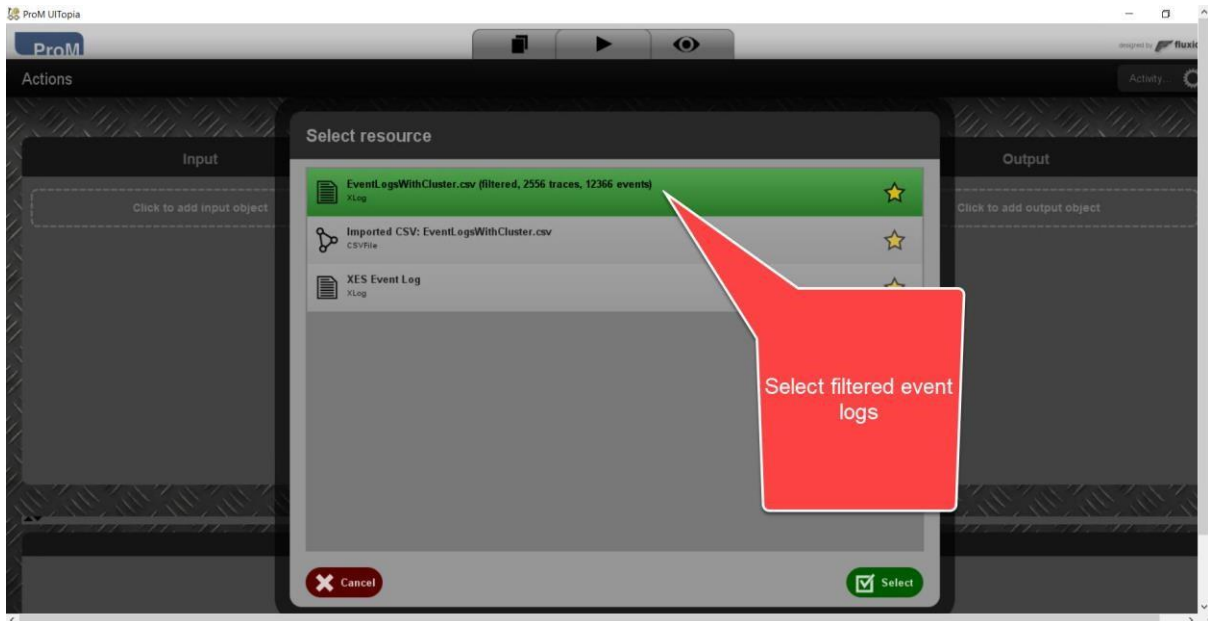

Figure 23 - Image showing how to select the input data for the directly follows visual miner.
19. Click on “Click to add input data and select the filtered event logs to run the directly follows miner on as seen in Figure 23.